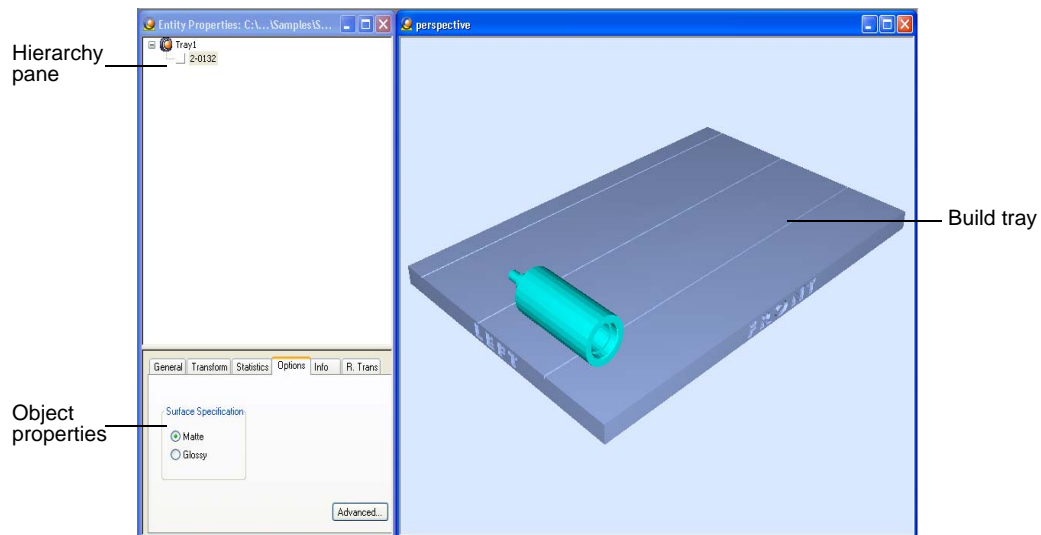

Figure 5-5: Default screen layout
The default screen layout displays the *perspective* view of the build tray and the tray hierarchy pane, which lists the elements placed on the tray (see figure 5-5 on page 5-4). You can view models from different angles by changing the screen layout.
- ❑ **2 Views** is the default screen layout, already displayed (see figure 5-5 on page 5-4).